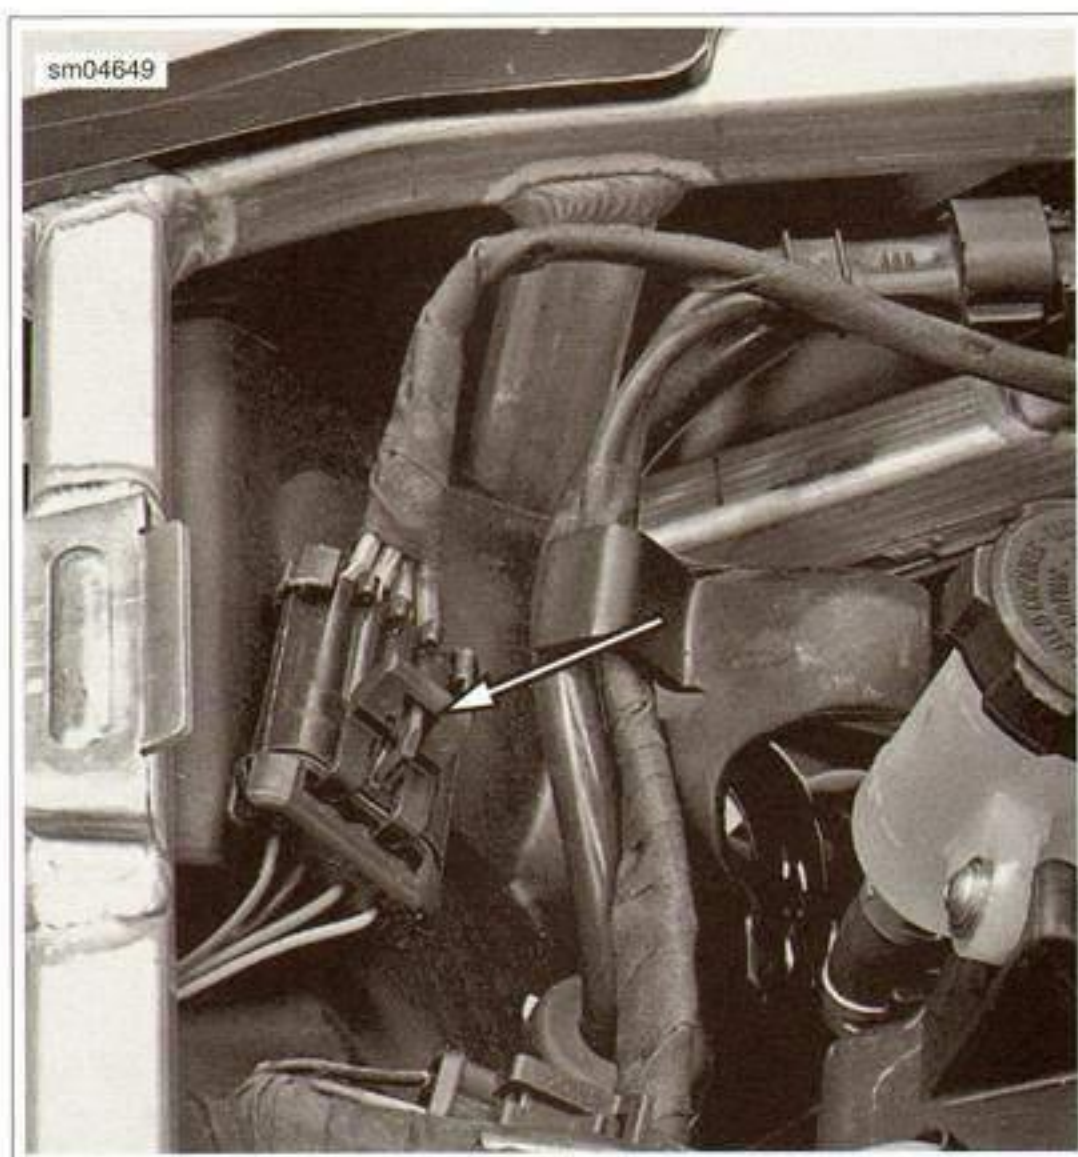

Figure 3-18. Fuel Pump Connector [86]
- a. See Figure 3-18. Separate the fuel pump connector [86] housings.